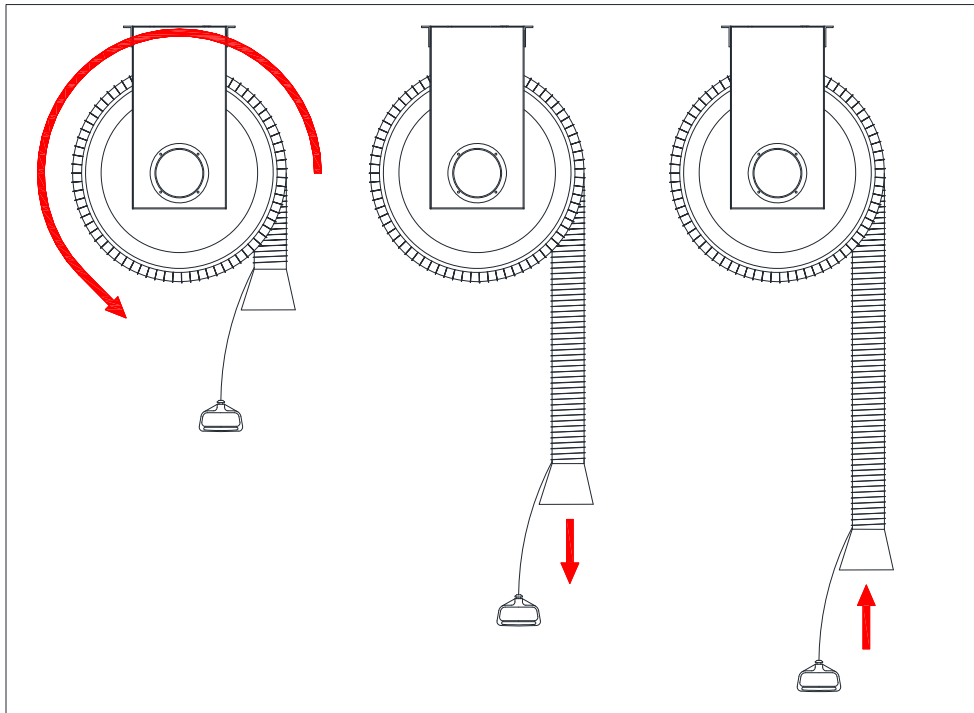

FIG5 – TENSION ADJUSTMENT PROCEDURE (DECREASE)
- b. To decrease tension, rotate the drum so all the hose is on the drum and lock into place. With the reel locked into place, take a loop of hose off of the drum so the removed hose hangs vertically. You will need to remove the adjustable hose stop and may also need to remove the exhaust adapter. Repeat this procedure until reel retracts hose slowly to desired height. See FIG5 for adjustment illustration.